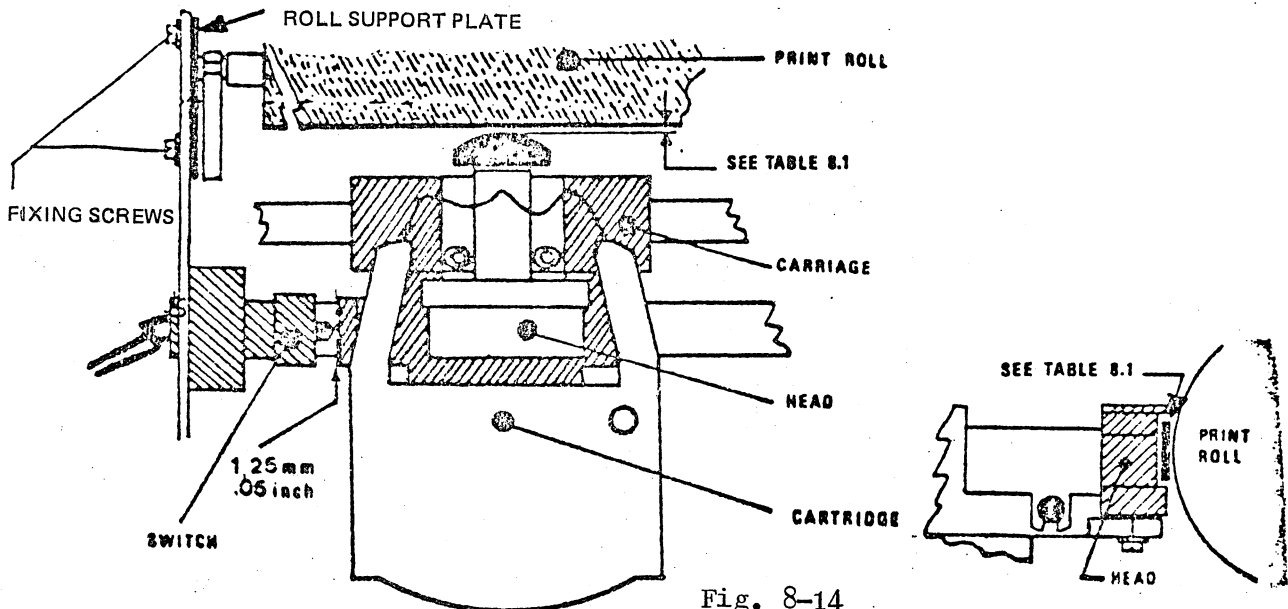

Fig. 8-14
- . Interpose a feeler gauge between the needles and the roller as shown on table 8.1 (fig. 8.14)
- . Should the alignment be out-of-tolerance, loosen the two allen screws on the plate which locks the left-hand side of the roller to the steel sheet wall (fig. 8.14).